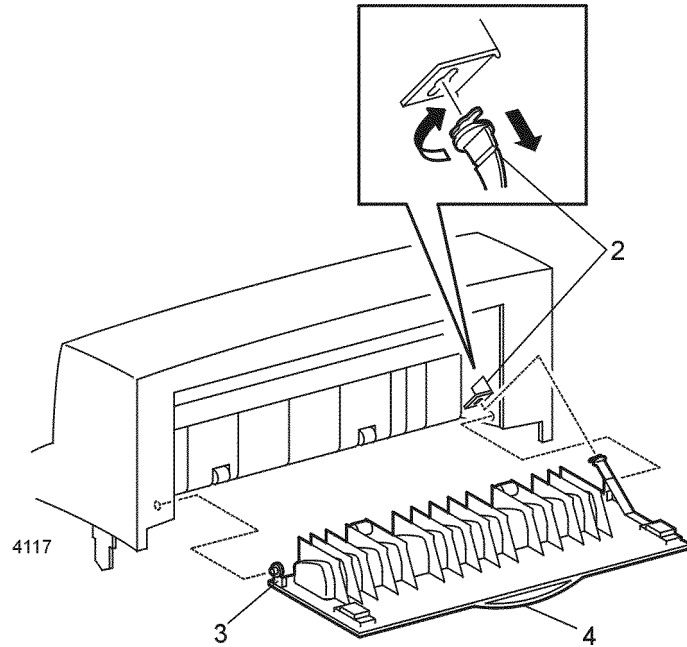

Figure 1 OCT Rear Cover
3. Carefully press in on the right bracket to disengage the cover from the frame (Figure 1).
4. Remove the cover (Figure 1).